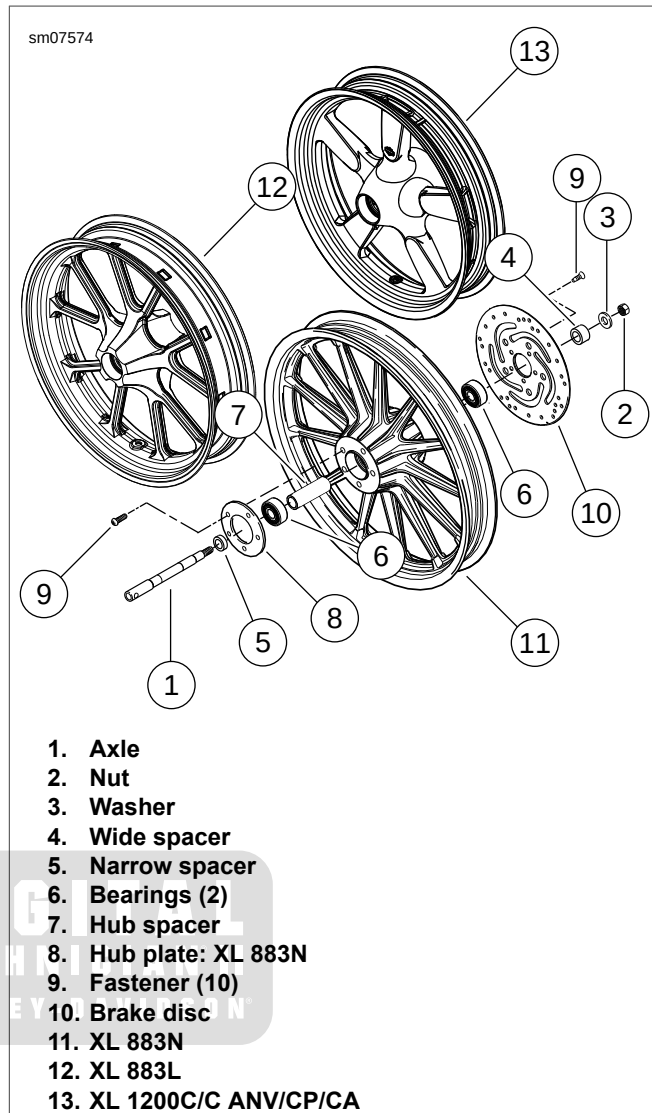

Figure 2-12. Single Disc Wheels: XL Models
1. See Figure 2-12. Install hub spacer (7) and **new** wheel bearings (6). See 2.5 WHEELS, Sealed Wheel Bearings.
2. **XL 883N**: Install hub plate (8) on right side of wheel. Secure with **new** screws and tighten in an alternating pattern to 16-24 ft-lbs (21.7-32.6 Nm).